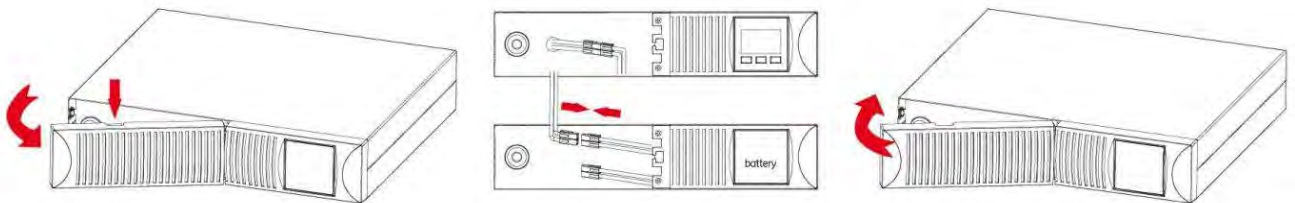
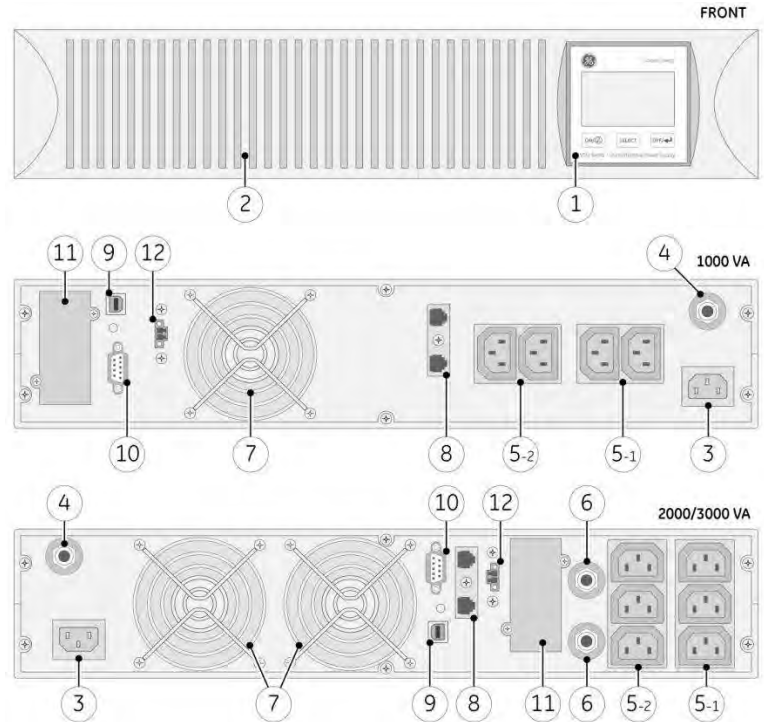

Fig. 2.3.1.b: connecting battery extension pack to 3000VA model
Fig. 2.3.2: front and rear panels
3. **3000VA model only:** a battery extension pack can be connected to the UPS. Remove the battery door (2, fig. 2.3.2) and create an opening for the battery cable by cutting/breaking off the piece indicated in figure 2.3.1.b. Connect the DC connector of the battery pack to the DC connector of the UPS. Using the DC socket of the battery pack you can install a second, third, etc. pack. As the battery pack is equipped with an integrated battery charger it must be connected to an AC wall outlet. Reinstall the battery door.